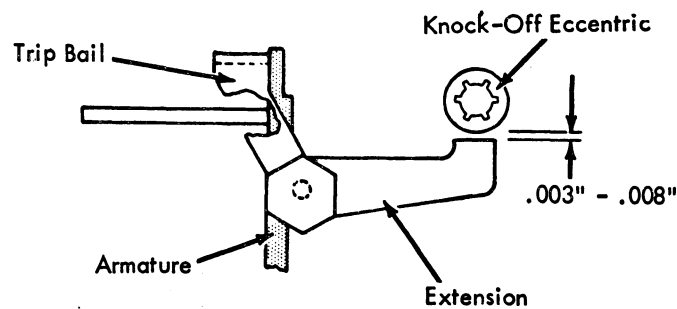

FIGURE 34. Knock Off Eccentrics
- b. Apply slight pressure to the knock off extension (Fig. 34) or trip link extension to hold the bail in contact with the armatures.
9. Knock Off Eccentrics (Fig. 34) - Adjust (T2 and R5 armatures manually attracted) to clear the trip bail extensions by .003" to .008".
4. **Knock-Off Eccentric (Late Style)** - The redesigned trip bail contains only one extension. It is adjusted to .003" to .008" as shown on Fig. 34.